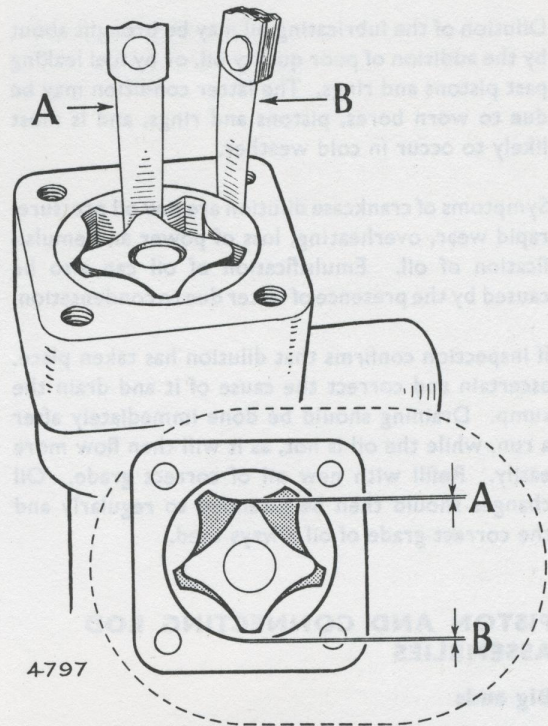

Fig. 38. Checking rotor lip and outer rotor clearance in the pump body
2. Side clearance between the top of the lobes on the inner and outer rotor as shown in Fig. 38.